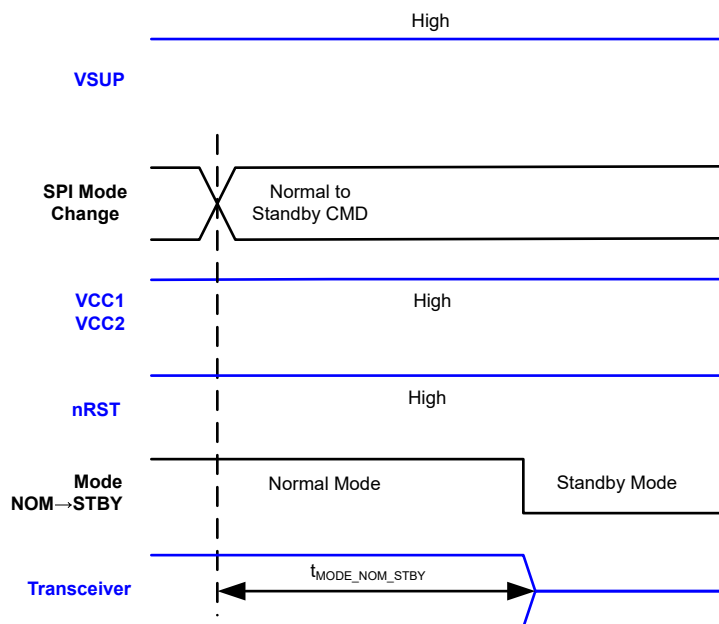

Figure 7-16. Normal to Standby Timing
- The blue signals are input or output of the TCAN245x-Q1 and the black signals are internal to the TCAN245x-Q1. This is for the timing diagrams Figure 7-13 , Figure 7-14, Figure 7-15, Figure 7-16.